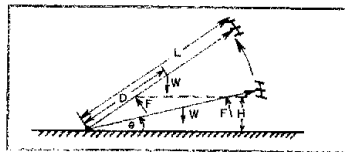

Fig. 3 — Pertinent factors related to "walking up" a hinged tower.
be avoided unless one has a good grasp of the physics involved. I would like to support this statement by presenting a simple derivation of the forces involved in walking up a hinged tower. Consider a hinged tower of length L and weight W and whose center of gravity is located a distance (D) from the base, as shown in Fig. 3.